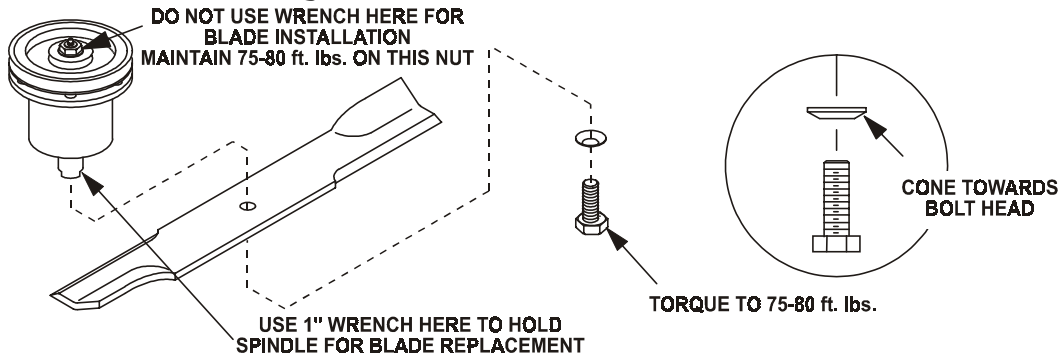

FIG. 13
- g) Re-install the blades (if they were removed) and torque blade bolts to 75-80 ft. lbs. Be sure the spring disc washer cone is installed toward the bolt head (See Figure 13).